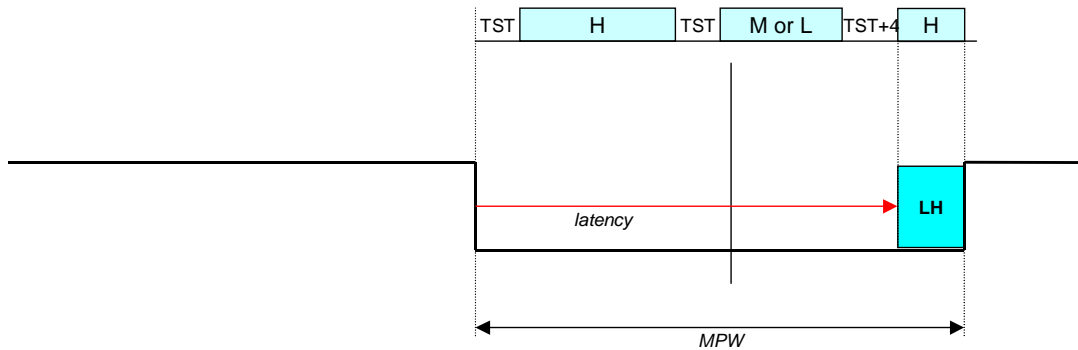

Figure 7. Worst case timing
In this instance, the worst case timing case that can happen is illustrated in Figure 7.
- Calculate MPW according to Figure 7.